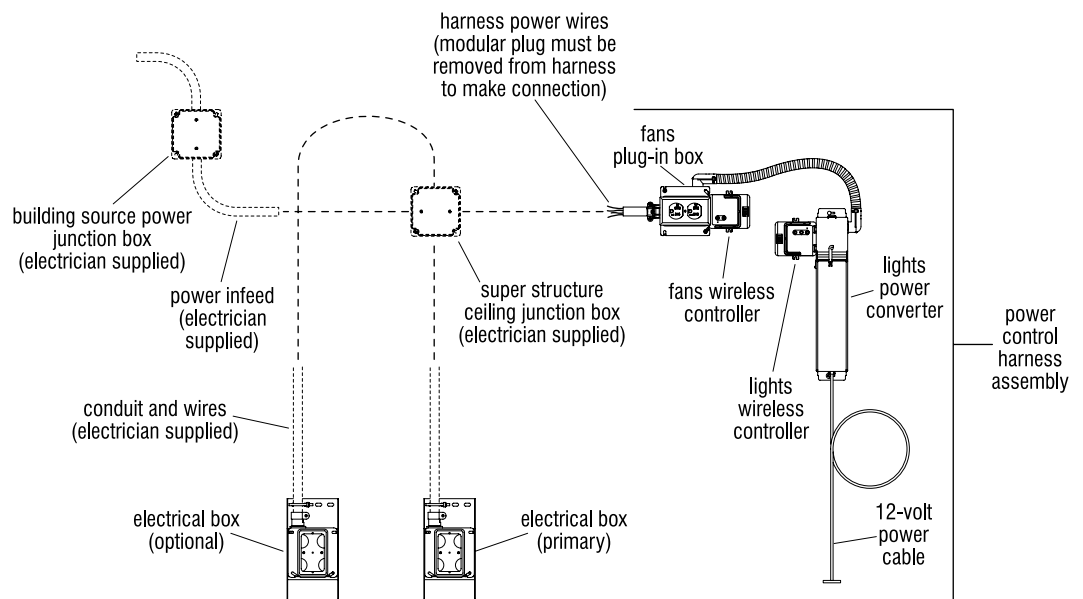

Figure 2 - Hardwired Electrical Power Distribution
**Overview:** The hardwired power system for WiggleRoom Super Structure provides building source power infeed down to above the ceiling level of each room, then to appropriate electrical components. An electrician supplied electrical junction box is to be located onto the super structure ceiling as instructed. Electrician supplied power outlet(s) are to be installed in electrical boxes that are factory installed in the wall utilizing electrician supplied wire and conduit. The power outlet wiring and conduit is to be routed up to the electrician supplied junction box on the ceiling. The power control harness assembly (to power and control the lights and fan) is to be hardwired into the junction box on the ceiling as well. Electrician supplied power infeed wires route from the super structure ceiling junction box, up to an above ceiling junction box where the building source power connections will be made to power the room (Figure 2).